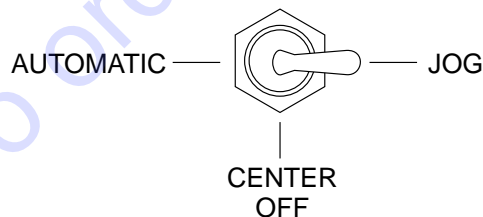

Figure 52. Cylinder Stroke Control Switch (JOG)
1. To determine the pressure of the hydraulic system, set the ***cylinder stroke control switch*** (Figure 52) to the **JOG** position.